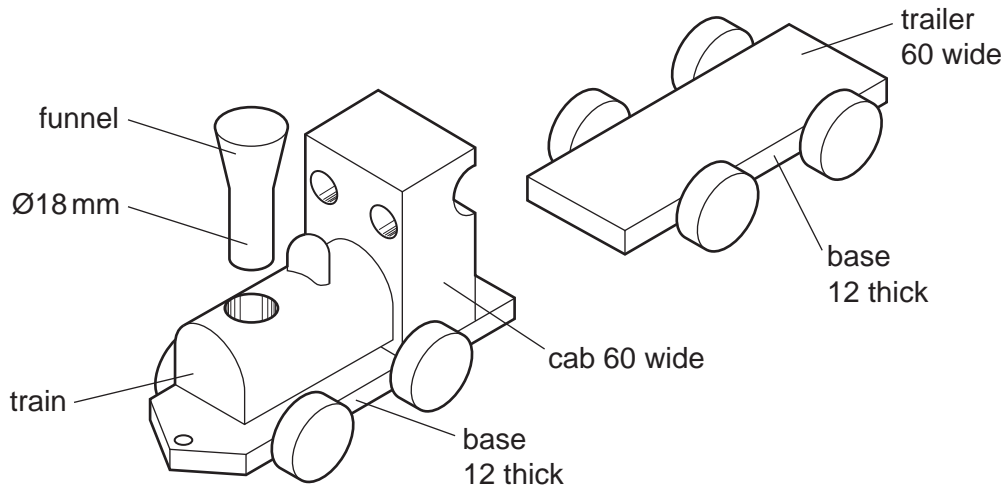

Fig. 4
- 11 Fig. 4 shows a toy train and trailer made mainly from beech. The funnel is shown removed from the body of the train.
- (e) Use sketches and notes to show how you would make the funnel shown in Fig. 4 from the length of beech shown below using a wood turning lathe.